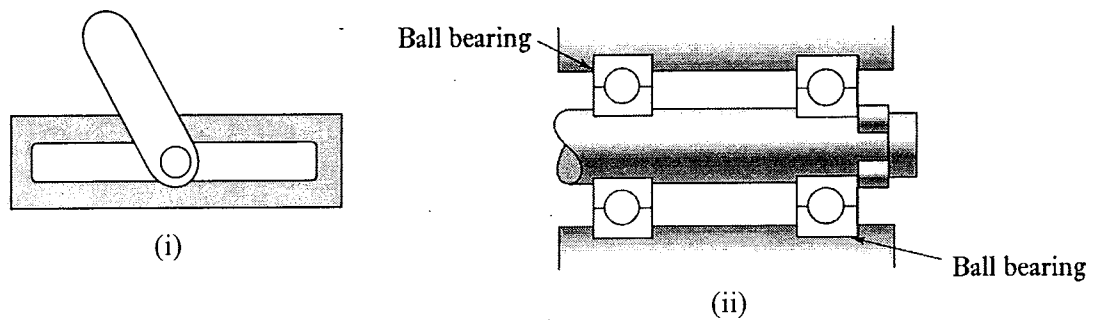

Figure Q3[a]
- Q3. [a] Explain the terms 'degrees of freedom' and 'kinematic design'. Determine the number of degrees of freedom and the number of constraints in the mechanisms shown in Figure Q3[a](i)-(ii). Is the mechanism in Figure Q3[a](ii) a kinematic design? Why?